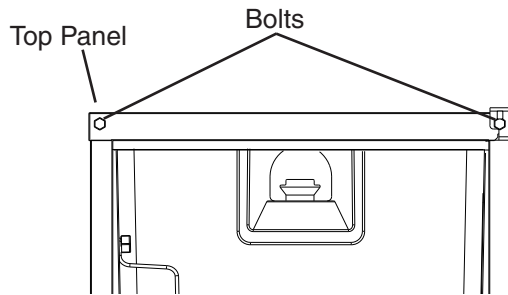

Fig. 4
b) Remove the 2 bolts securing the top panel, then lift it off. See Fig. 4.